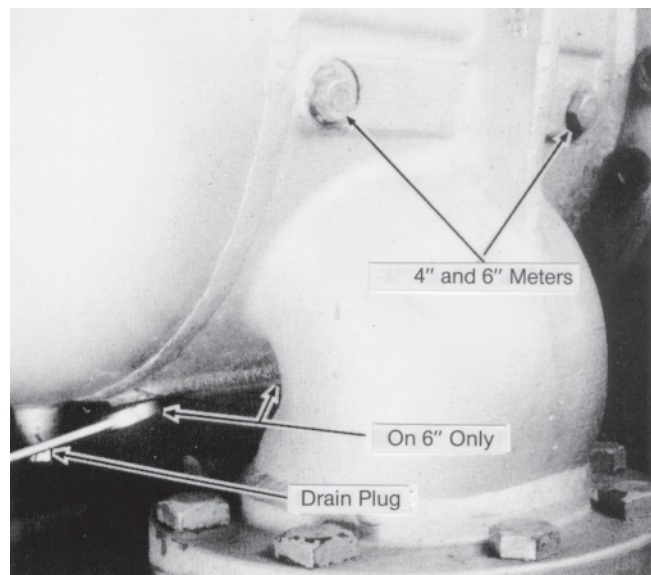

Figure 15 –Bolt Location
If not already drained, any product left in the case can be removed at the drain plug, Figure 15.
3. Take out the bolts that fasten the body to the housing, Figure 15.